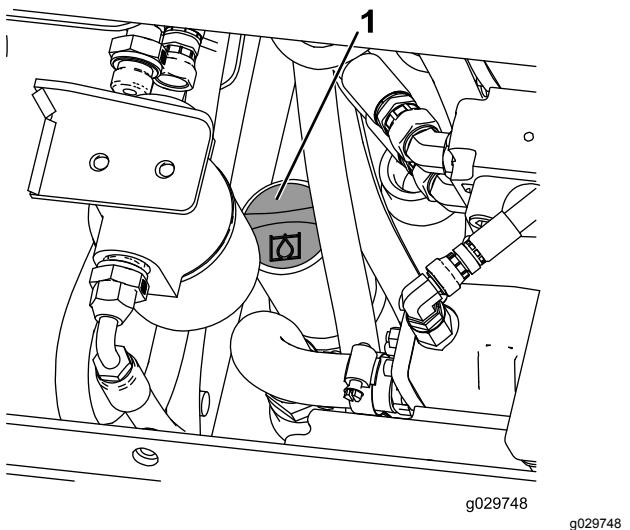

Figure 27
7. Clean the area around the filler neck of the hydraulic tank (Figure 27).